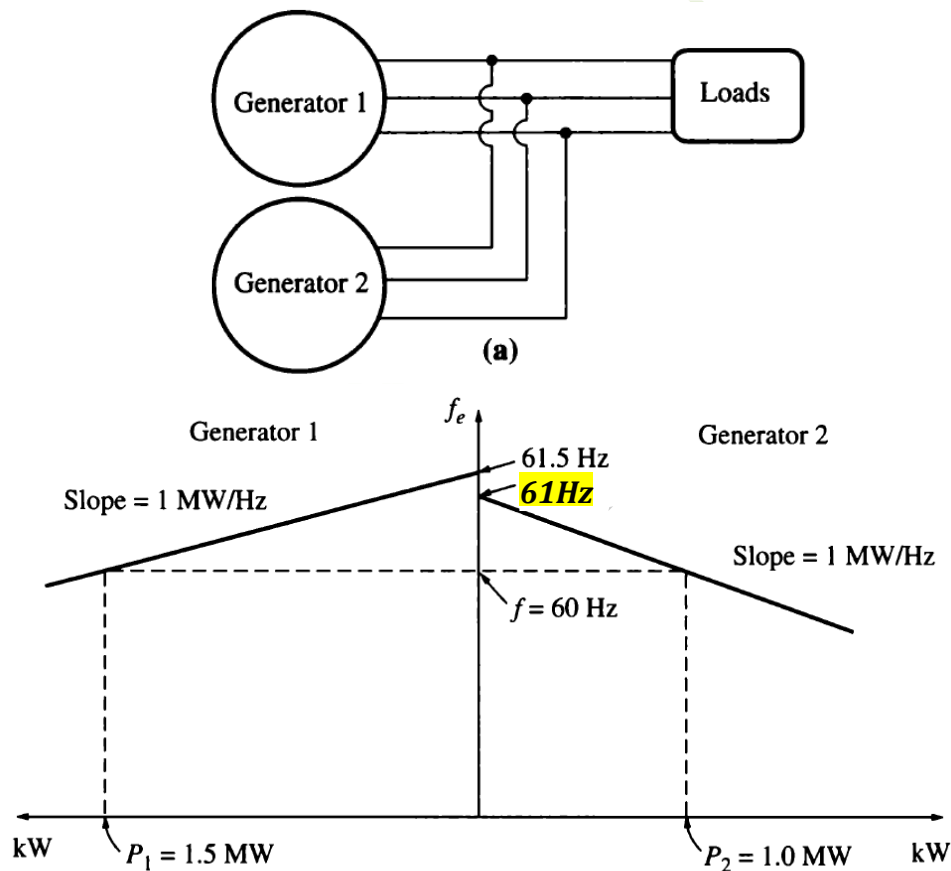

FIGURE 4–39
- (b) 1. If the generator is loaded down with rated current at 0.8 PF lagging, the resulting phasor diagram looks like the one shown in Figure 4–24a. In this phasor diagram, we know that V_ϕ is at an angle of 0° , that the magnitude of E_A is 277 V, and that the quantity $jX_S I_A$ is
The two quantities not known on the voltage diagram are the magnitude of V_ϕ and the angle δ of E_A . To find these values, the easiest approach is to construct a right triangle on the phasor diagram, as shown in the figure. From Figure 4–24a, the right triangle gives
2. If the generator is loaded with the rated current at unity power factor, then the phasor diagram will look like Figure 4–24b. To find V_ϕ here the right triangle is
3. When the generator is loaded with the rated current at 0.8 PF leading, the resulting phasor diagram is the one shown in Figure 4–24c. To find V_ϕ in this situation, we construct the triangle OAB shown in the figure. The resulting equation is
Example 4–6. Figure 4–38a shows two generators supplying a load. Generator 1 has a no-load frequency of 61.5 Hz and a slope s_{P1} of 1 MW/Hz. Generator 2 has a no-load frequency of 61.0 Hz and a slope s_{P2} of 1 MW/Hz. The two generators are supplying a real load totaling 2.5 MW at 0.8 PF lagging. The resulting system power-frequency or house diagram is shown in Figure 4–39.